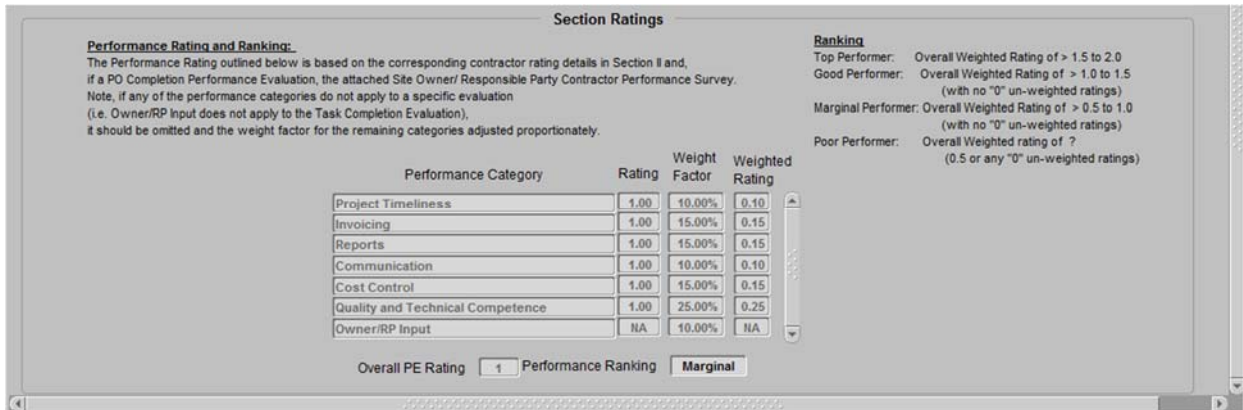

Figure 4
10. **Review and Save** your responses. STCM will calculate ratings in “Section Ratings” at the bottom of the screen (Fig. 4).